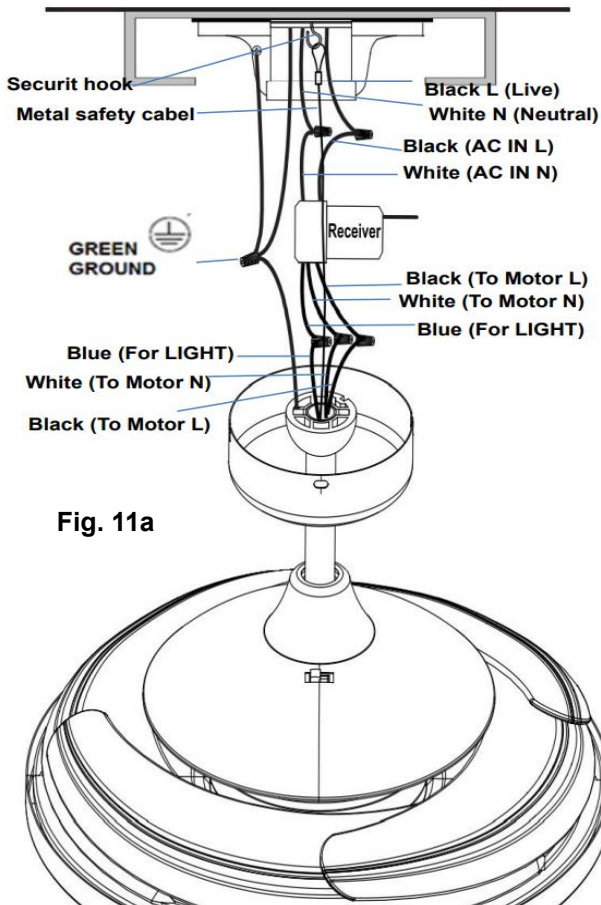
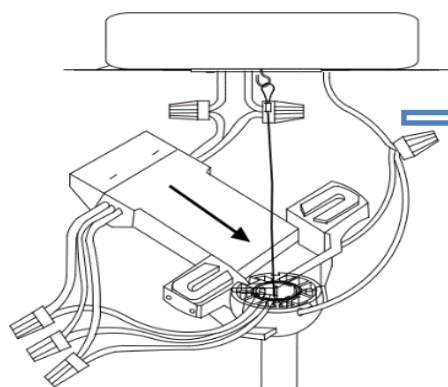

Fig. 11a
Fig. 11b
7. Pull the metal safety cable on the security hook, tight the safety cable (Fig.11a & Fig.11b)
10. Carefully insert the Remote Receiver above the hanger ball in the remainder spacing in the mounting bracket. Take care not to damage or loosen any of the wiring. (**Fig. 11b**)